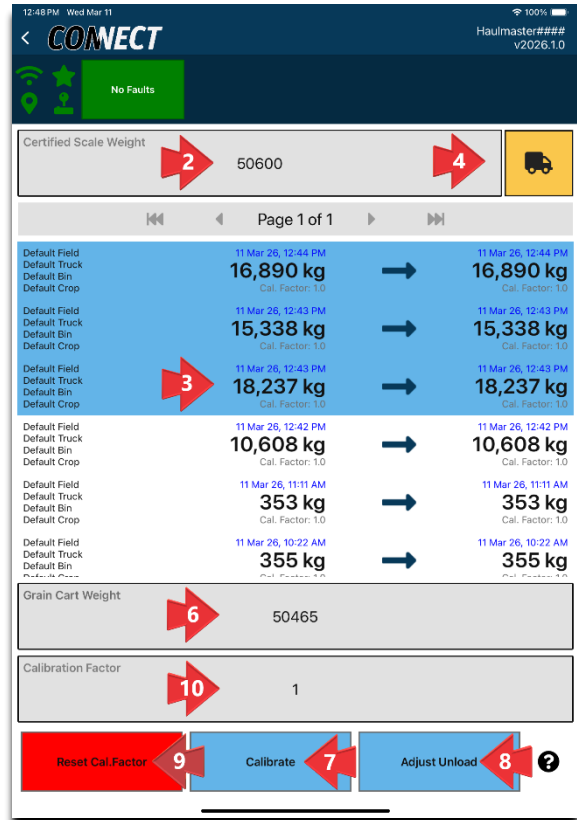

Figure 48 Weight Calibration
3. Select the unloads from the unload list that were combined to make that certified weight. The selected unloads will be highlighted in blue, and their total will be added to the **Grain Cart Weight**. Number 6 of Figure 48.